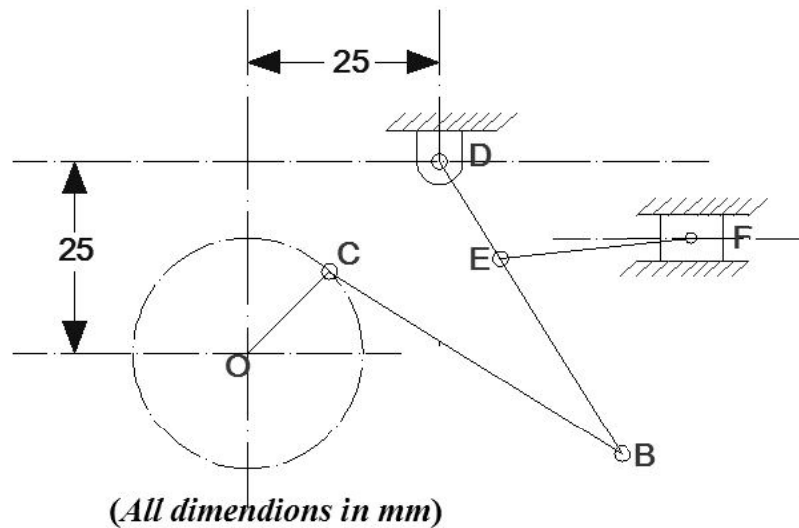

Figure: 1
5. In the mechanism shown in figure 1, the driving crank OC rotates *ccw* about the fixed point O at a uniform speed of 150 rpm. The lever BD is pivoted about the pin D which is fixed and oscillates about D, A coupler BC connects the points B and C, The die block F, driven by the link EF moves in the horizontal guides. When the crank angle is 45° , find the velocity of F, using the **Instantaneous center method**. OC=DE=15 mm, CB=BD =45 mm, EF = 25 mm. [10]